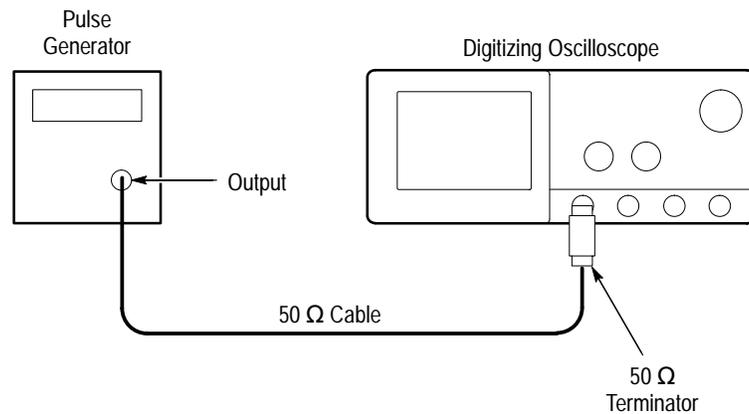

Figure 4–38: Setup for Sync Duty Cycle Test
- Connect the pulse generator through a 50  $\Omega$  cable and a 50  $\Omega$  terminator to the oscilloscope CH1 input. See Figure 4–38.
- Turn the pulse generator **OUTPUT (VOLTS)** control until the signal on the oscilloscope shows a one division negative going pulse. See Figure 4–39.